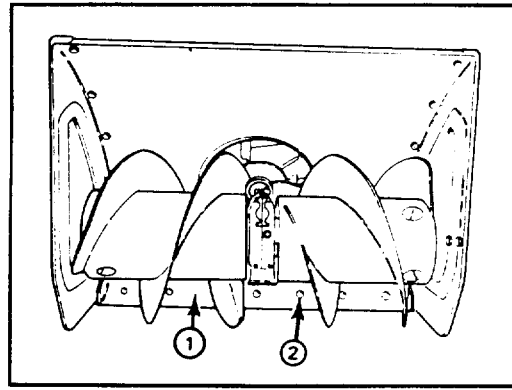

Figure 16
3. Next, loosen the (6) carriage bolts securing the scraper to the auger housing (Fig. 16).
5. When the scraper is adjusted correctly, tighten the (6) carriage bolts securely.
6. Readjust the skids so there is 1/8" between the bottom of the skids and a level surface. Tighten the (4) flange bolts securely.